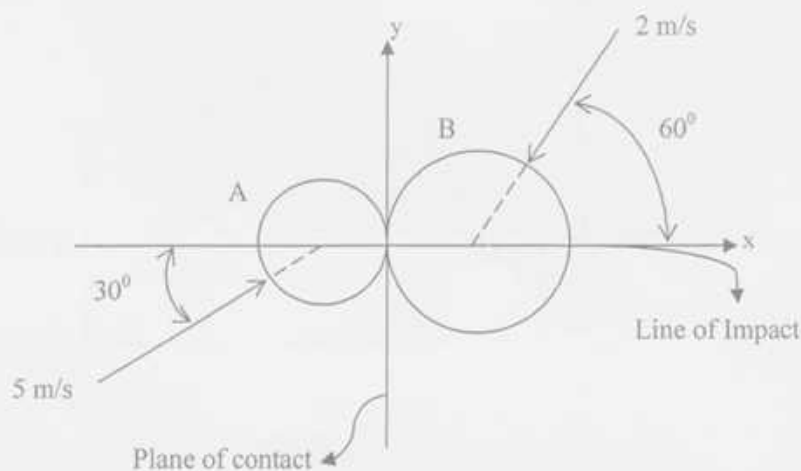

Figure 10
11. Two smooth disks A and B, having a mass of 1 kg and 2 kg, respectively, collide with each other with the velocities shown in Figure 10. If the coefficient of restitution for the disks is $e = 0.75$ then, determine the x and y components of the final velocities of both disks just after the collision.